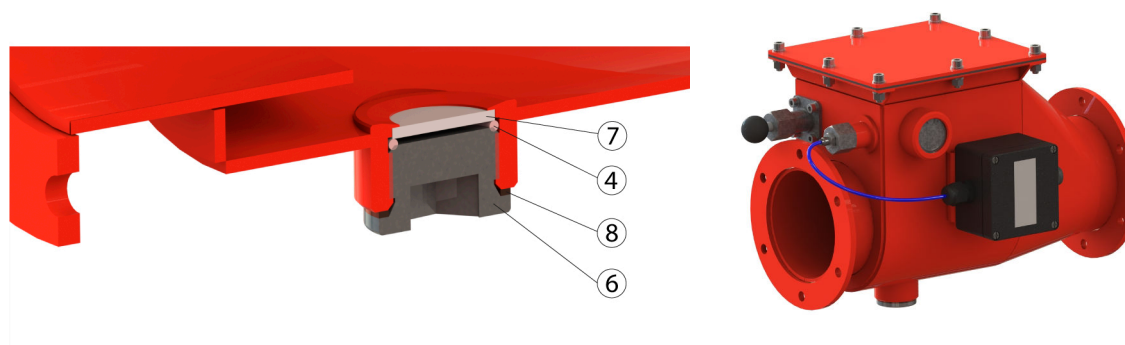

Figure 6 – Blinding of the adapter (4 – o-ring, 6 –plug (DIN 908, M30x1,5), 7 – stainless steel lid, 8 - Cu seal,)
If the dust accumulation sensor isn't included in the delivery, special plug is used (6). Blinding plug is shown on Fig 6. It is composed of plug M30x 1,5 (6) (DIN 908), stainless steel lid (7), o-ring 25x2,5 (4) an Cu seal (8). Plug is tightened with a torque 40 Nm.